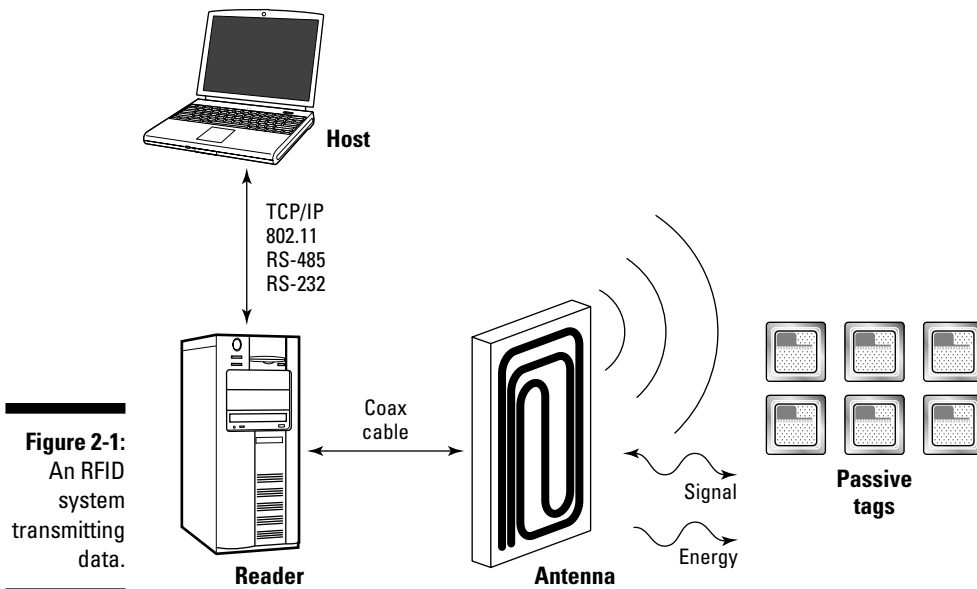

Figure 2-1:
An RFID solution uses a radio frequency (RF) signal to broadcast the data captured and maintained in an RFID chip. An RFID system is composed of three components: a programmable transponder or tag, a reader (with an antenna), and a host. Figure 2-1 shows the basics of how an RFID system works.